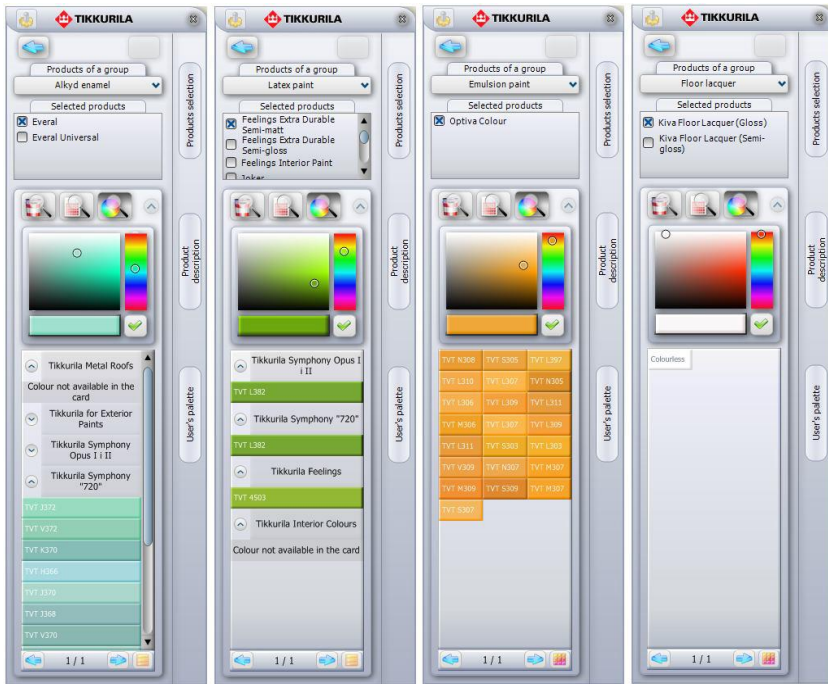

Fig. 7 - results of searching for the preferred colours for the chosen product
- After it is accomplished, the list of Cards, in which the wanted colour has been found, will appear below the palette (Fig. 7);
- An example result of this kind of selection has been illustrated on the illustration on the next page (Fig. 7);